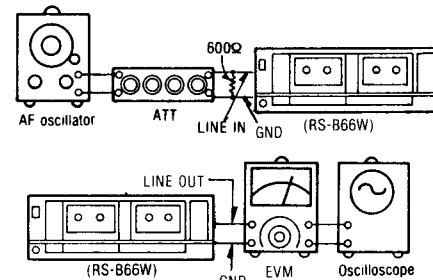

Fig. 17
- Test equipment connection is shown in fig. 17.
- Repeat from step (2).
- Make connections as shown in fig. 17.